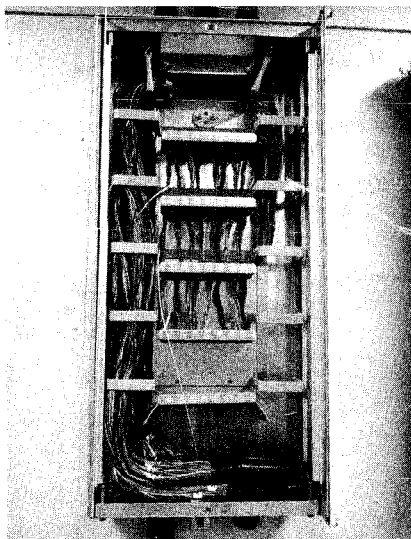

Fig. 4
7.05 Route the OUT cable binder groups across the top of the wiring brackets. The binder group colour codes must correspond to the colour code on the front of the distributing bracket. (See Fig. 4)